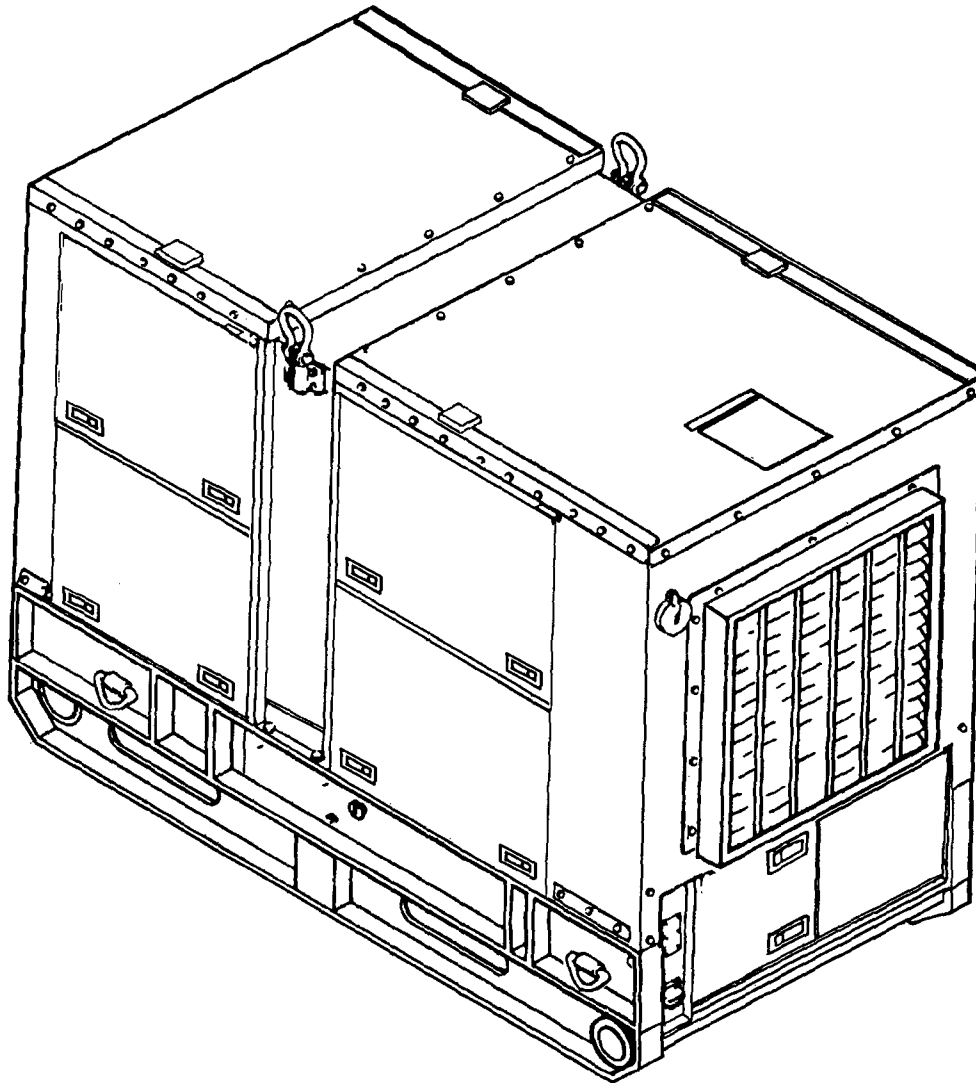

Figure 1-1. Engine Generator Set, Right-Front, Three-Quarter View
- a. General. The generator sets, models MEP-004A, MEP-103A, and MEP-113A (Figure 1-1 and Figure 1-3) are fully enclosed, self-contained, skid mounted, portable units. They are equipped with controls, instruments, and accessories necessary for operation as single unit or in parallel with one or more units of the same class and mode. Each set is equipped with engine oil pan heating elements and necessary connections for field installation of winterization kits. Lifting devices for hoisting the generator set are located at the top of the lifting frame and center support assembly. Tubular cross members, that will accept a chain, have been provided at the front and rear of the skid base assembly to permit towing for short distances. Mobility of the units may be obtained by mounting on trailers or equipping with a wheel mounting kit. To extend the capability of the generator sets, they have also been designed to accept and operate with the following optional kits:
- (1) Fuel Burning Winterization Kit (paragraph 5-3).
- (2) Electric Winterization Kit (paragraph 5-9).
- (3) Wheel Mounting Kit (paragraph 5-15)
- (4) Load Bank Kit (paragraph 5-20).
- (5) Applications Kit (paragraph 5-26).
- (6) Acoustic Suppression Kit (paragraphs 2-27 and 5-29).
- (7) Automatic Transfer Panel 50/60 Hz. Monitors 50/60 Hz primary power and automatically starts and transfers the load to a standby generator set in the event of abnormal primary power fluctuation or failure. Continues sensing primary power and upon satisfactory resumption, will return the load to the primary power source, shut-off and recycle the generator set to a standby condition. (See Appendix A for manual.)
- (8) Automatic Transfer Panel 400 Hz. Monitors 400 Hz power and automatically starts and transfers the load from an operating 400 Hz generator set to a like standby set in the event the operating set load contactor opens due to a faulty condition. (See Appendix A for manual.)
- (9) Remote Control Box. Permits starting and stopping of the generator set from a remote location. (See Appendix A for manual.)
- (10) Auxiliary Fuel Burning Winterization. Provides a dependable external source of battery power for starting of the generator set in ambient temperatures from -25°F to -65°F. (See Appendix A for manual.)